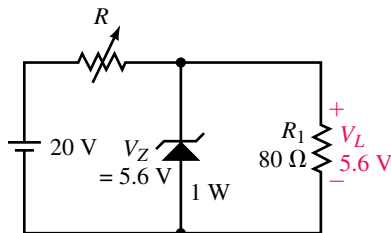

FIGURE 7-63
20. Given the circuit of Figure 7-63, determine the range of R (maximum and minimum values) which will ensure that the output voltage $V_L = 5.6\text{ V}$ while the maximum power rating of the zener diode is not exceeded.